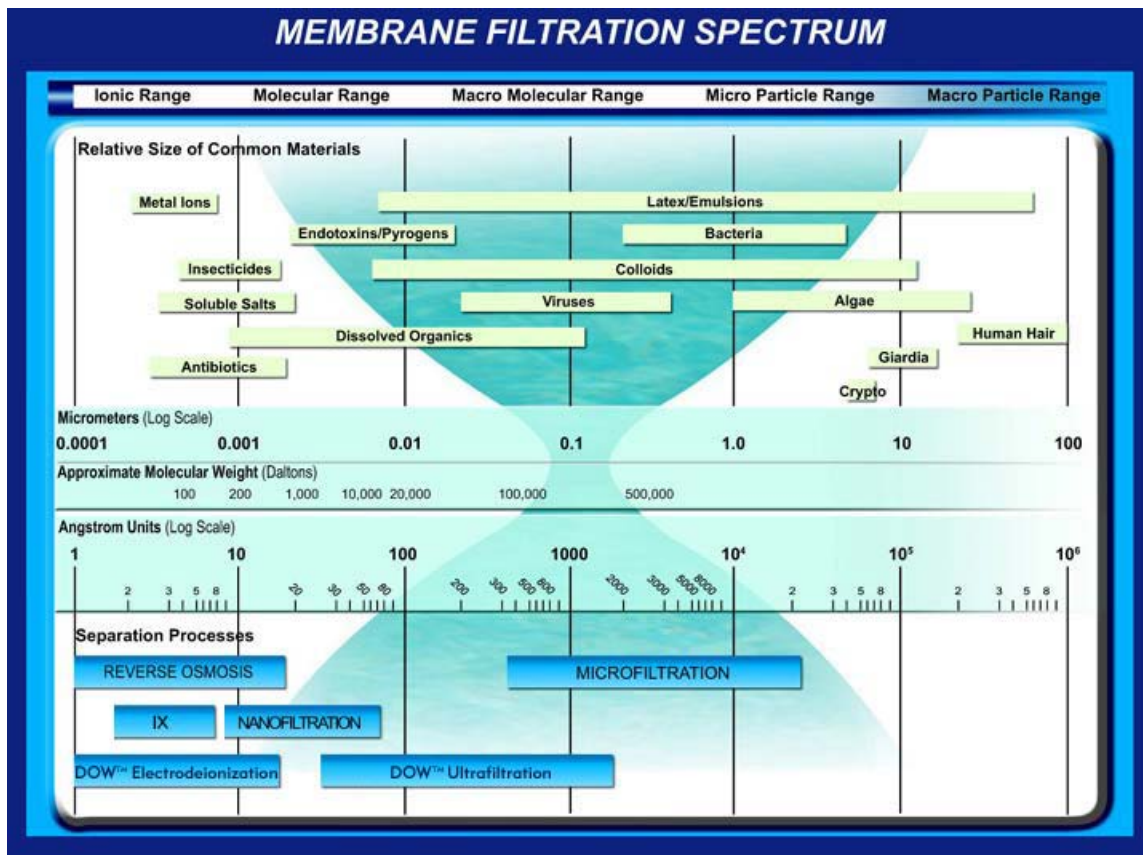

Figure 1: Material Size and Membrane Process Guide
UF membranes reject solutes ranging in size from 0.03 microns and larger. Figure 1 provides a guide to the relationship between common materials, separation processes, and pore size measurements. The UF membrane process separates molecules in solution on the basis of size. The pore size and molecular weight cut-off (MWCO) are often used to characterize a membrane. The pore size is the nominal diameter of the openings or micropores in the membrane expressed in microns. The MWCO is the molecular mass or weight of a solute that rejects greater than 90 percent. The unit of measurement for MWCO is the Dalton (D).